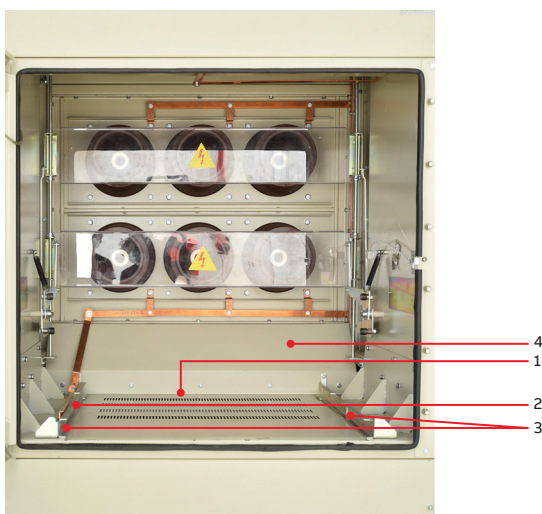

Fig 15.1
2. Fix/mount following new components in existing VHA36 panel (refer fig 15.1, 15.2, 15.3)